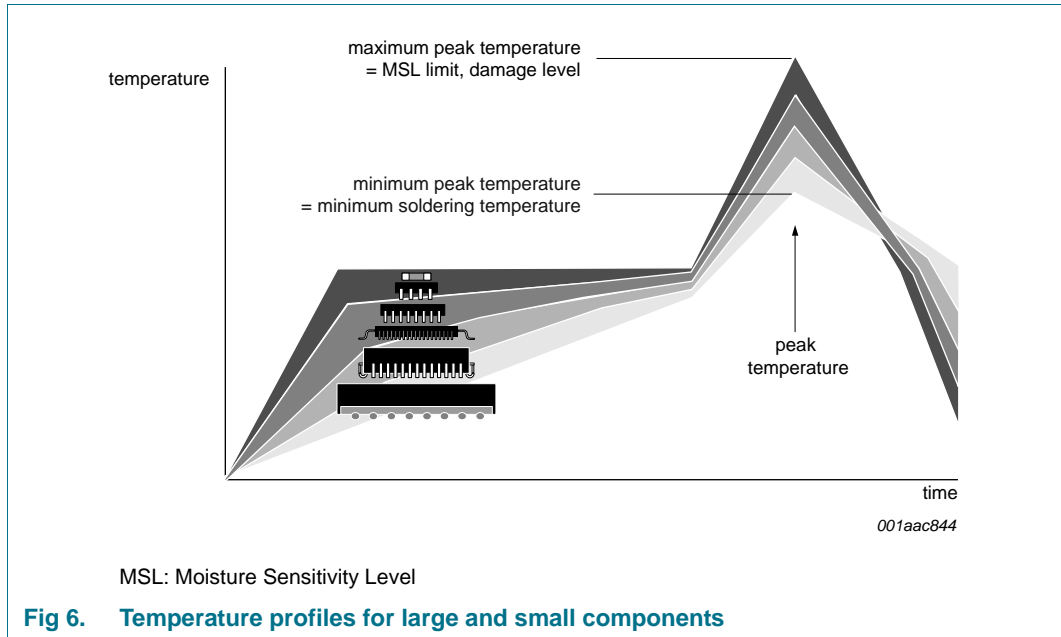

Fig 6. Temperature profiles for large and small components
- Lead-free versus SnPb soldering; note that a lead-free reflow process usually leads to higher minimum peak temperatures (see Figure 6) than a PbSn process, thus reducing the process window
Studies have shown that small packages reach higher temperatures during reflow soldering, see Figure 6.